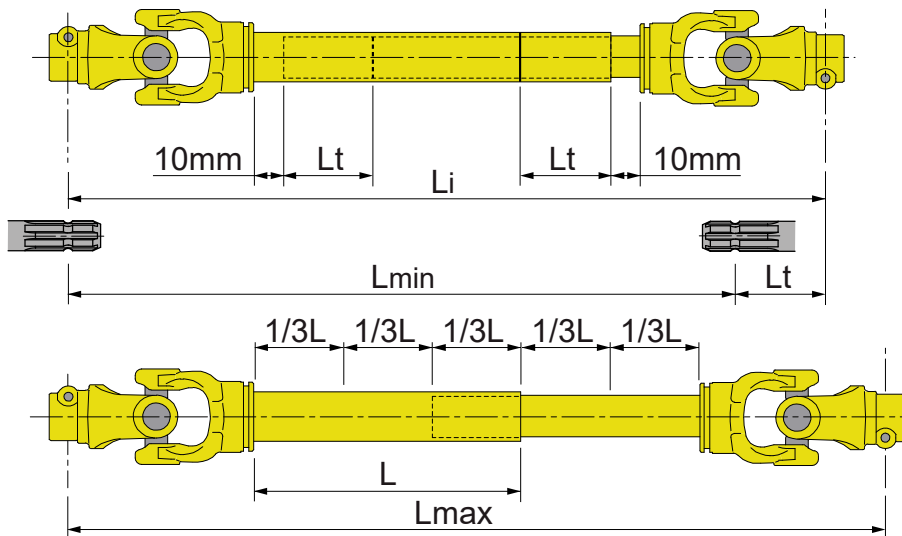
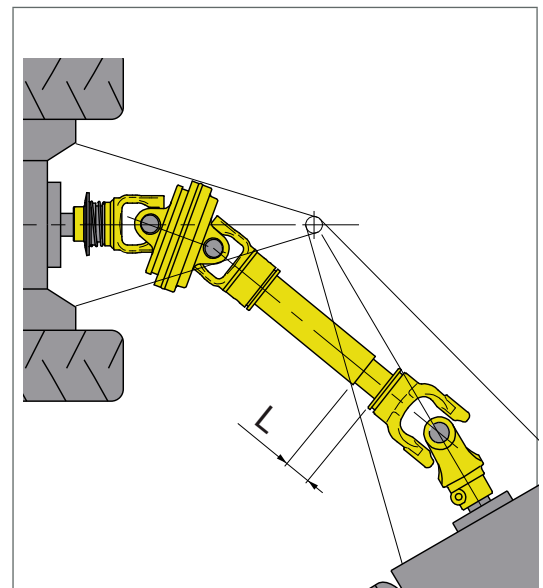
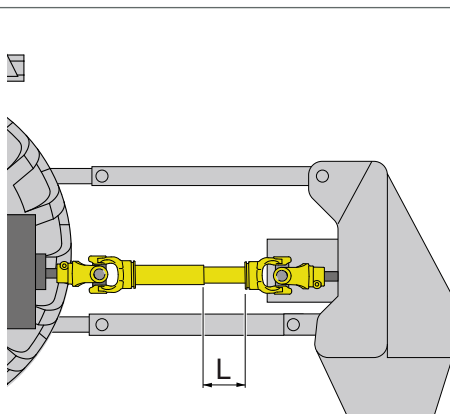

Fig. 9
Fig. 12
Fig. 10
- Assess the maximum and minimum working lengths (fig. 9), raising and lowering the tool in the case of carried tools (fig. 10 and 11): in the case of tools towed during steering, there is the minimum length (fig. 12 and 13);
- Make sure that at the minimum extension there is a space of at least 10 mm between the metal tube and the fork (fig. 9);
- Calculate the length of the tube to be cut L_t as the difference between the initial length of the shaft L_i and the minimum distance between the grooves of the PTO L_{min} (fig. 9).